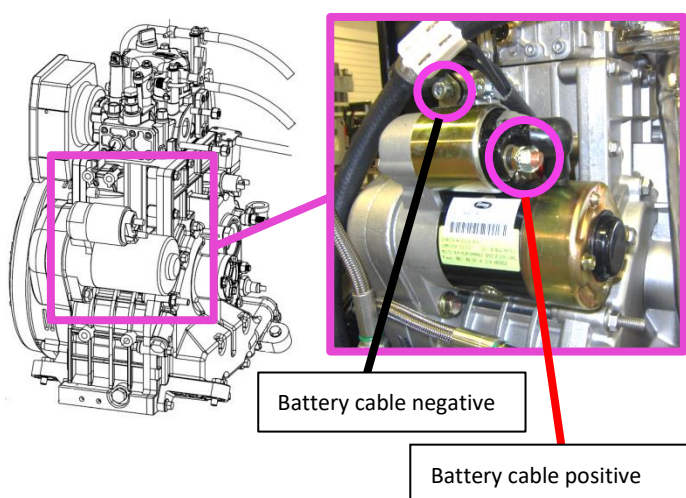

Figure 21: Connecting the battery cables to the starter motor
- 8 Connect the battery cables to the starter motor as shown in Figure 21 :